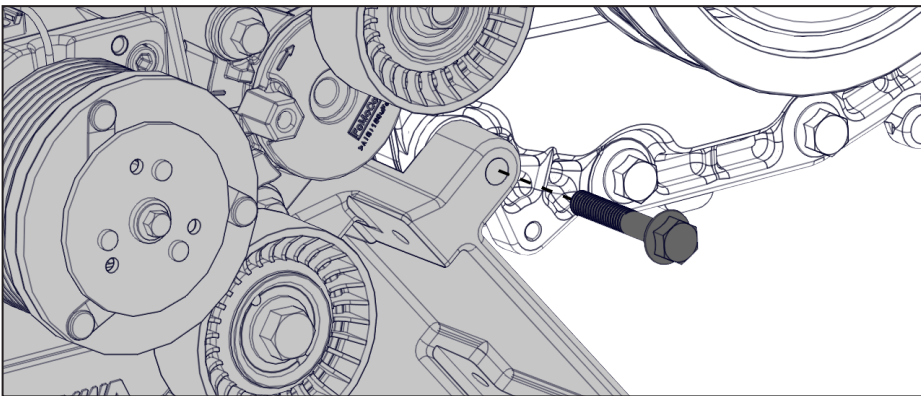

Figure 24 — Installing the main bracket
- Install one of the short OEM power steering pump fasteners, retained earlier, in the front bottom bolt location on the VMAC bracket (Figure 24).